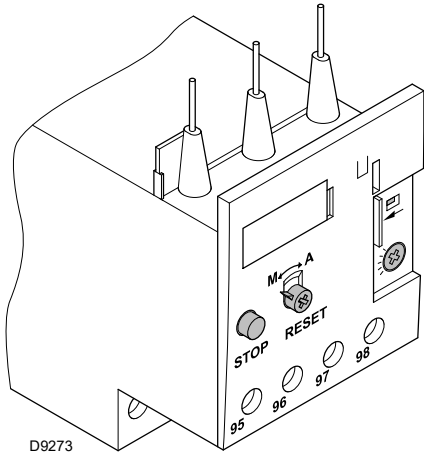

Fig. 27
The electro-mechanical overload relay (Fig. 27) is used to avoid damage to the motor owing to a strong increase in absorption or the lack of a phase.
- To reset, in the case of an intervention of the overload relay, press the button "RESET" (Fig. 27).
- The button "STOP" (Fig. 27) opens the NC (95-96) contact and stops the motor.